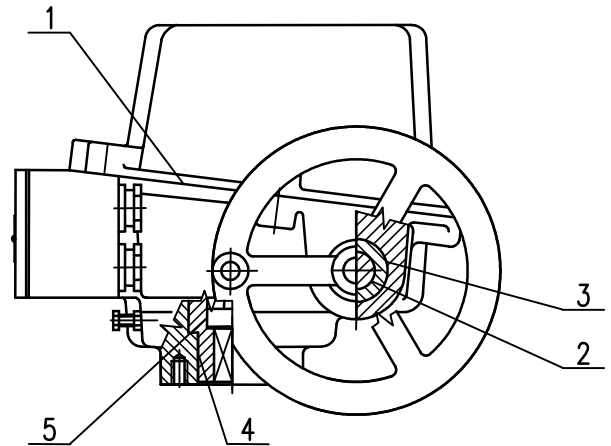

Fig. 10
**The closing surfaces are (Fig.10):**